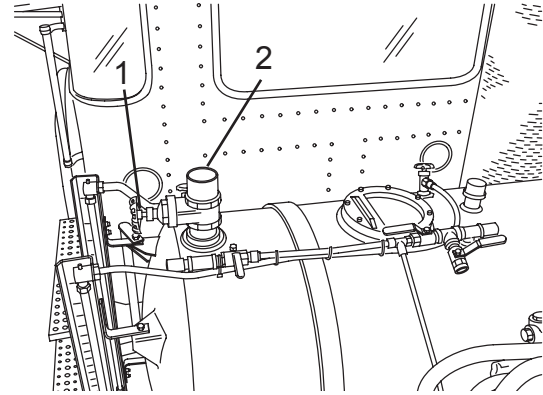

Figure 83
2. Open the chemical tank gate valve (Figure 83, Item 1) and add the chemical through the inlet (Figure 83, Item 2).